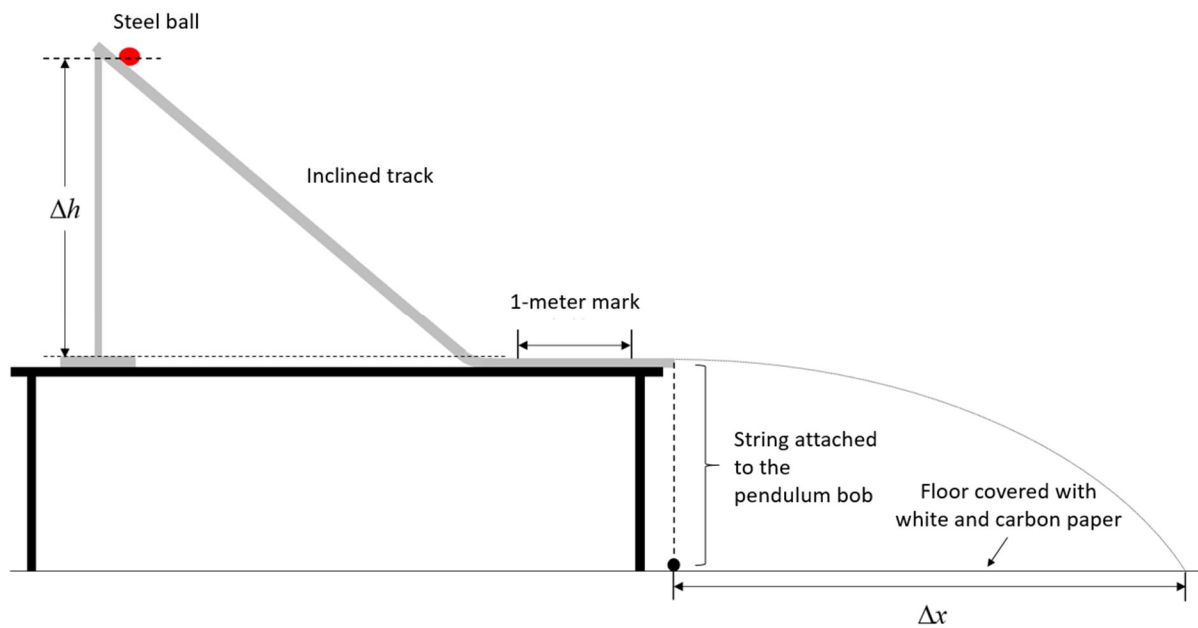

Figure 2
1. Set up the apparatus as shown in Figure 2. Place carbon paper over white paper so the steel ball leaves an impact mark for measuring the horizontal distance. Mark 1 m along the base of the track with tape.